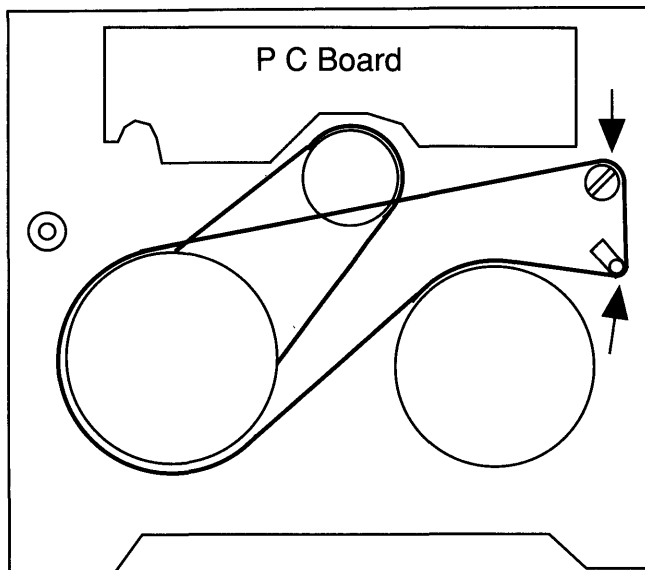

Figure 1. Rec/Pb mechanism A-2
- i) Unscrew 4 screws (pos 85 + 86) and remove the cover bracket (pos 41).
- ii) Route the belt as shown in figure 1 around the temporary pins (see arrow).
- iii) Assemble the cover bracket (pos 41), care should be taken not to loosen the belt.
- iv) Assemble the motor bracket assembly (pos 1 + 3) onto the Rec/Pb mechanism.